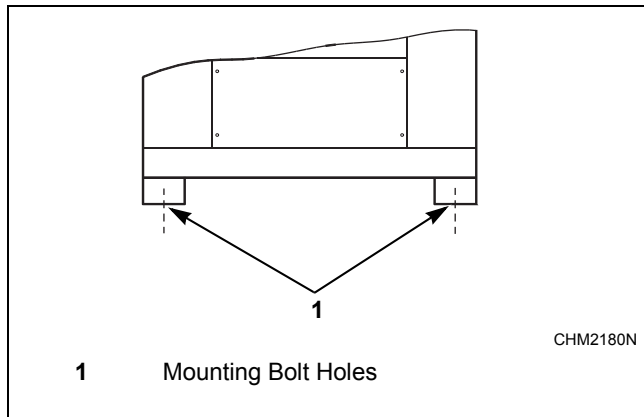

Figure 9
The machine must be placed on a flat, solid surface (metal base, concrete or solid ground). It is recommended that the machine be anchored on the provided places (1) in the base, especially in case of a plinth. Refer to *Figure 9*.